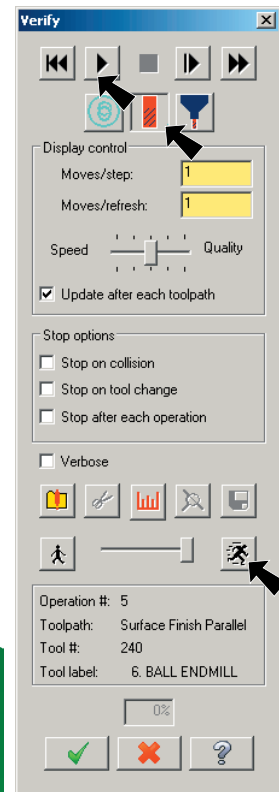

Fig. 49
Step 3. Click **Verify**  in the Toolpaths Manager, **Fig. 49**.
Step 4. Click **Machine quickly**  in Verify dialog box, **Fig. 49**.